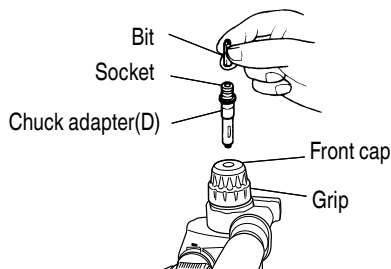

Fig. 22
4. When driving machine screws (Fig. 22)
- First, insert the bit into the socket in the end of chuck adapter (D).
- Next, mount chuck adapter (D) on the main unit using procedures described in 3 (1), (2), (3), put the tip of the bit in the slots in the head of the screw, grasp the main unit and tighten the screw.
5. When driving wood screws (Fig. 22)